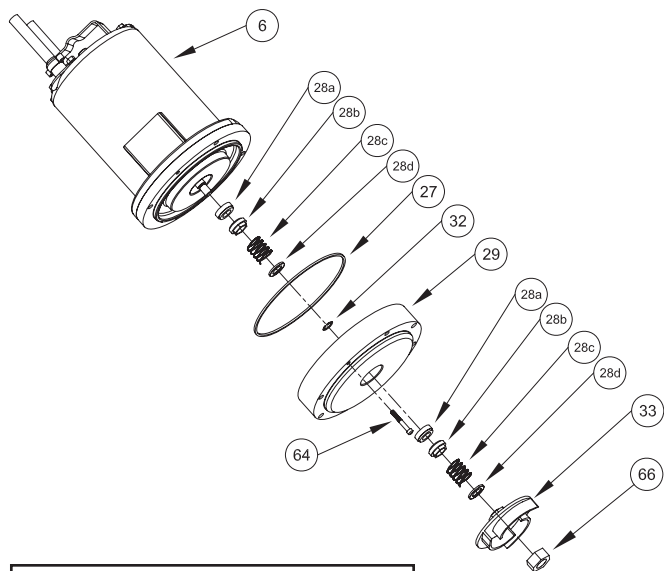

FIGURE 7 - Jam nut (66) used with cast iron impeller (33) application
Inner Seal (DS Units Only)- To expose inner shaft seal (28) for examination, remove outer seal as outlined above. Remove socket head cap screws (64). Lift outer seal plate (29) and square-ring (27) from inner seal plate (5), see Figure 7. If further repair is required, remove snap ring (32), retaining ring (28d), spring (28c) and rotating member (28b) from shaft. Examine as outlined in outer seal paragraph. If replacing seal, remove stationary (28a) by prying out with flat screwdriver.